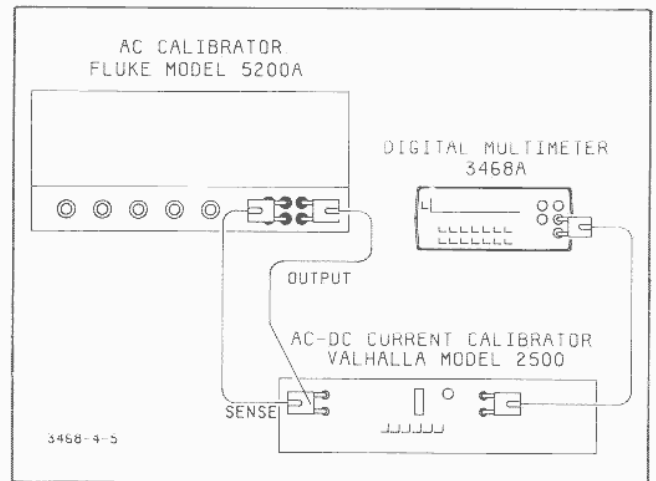

Figure 4-5. AC Current Accuracy Test
- e. Connect the AC Calibrator to the AC-DC Current Calibrator as shown in Figure 4-5.
f. Connect the 3468A to the AC-DC Current Calibrator as shown in Figure 4-5.